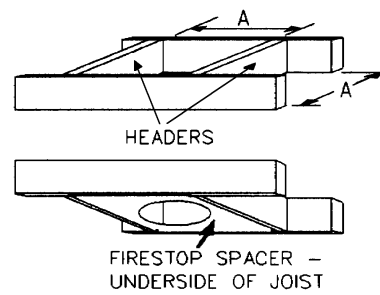

Figure 5
2. Cut and frame an opening in the roof to provide a 2" (50 mm) clearance between the outside of the chimney and any combustible material. **DO NOT FILL THIS SPACE WITH ANY TYPE OF MATERIAL.** Nail headers between the joists for extra support. Firestop spacers must be placed on the bottom of each framed opening in any floor or ceiling that the chimney passes through (figure 5).